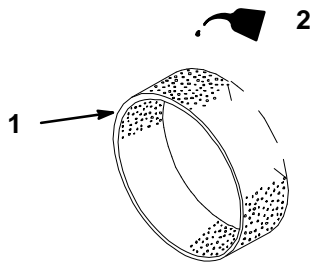

Figure 13
- C. Put one or two ounces of oil on the element (Fig. 13). Squeeze the element to distribute the oil.